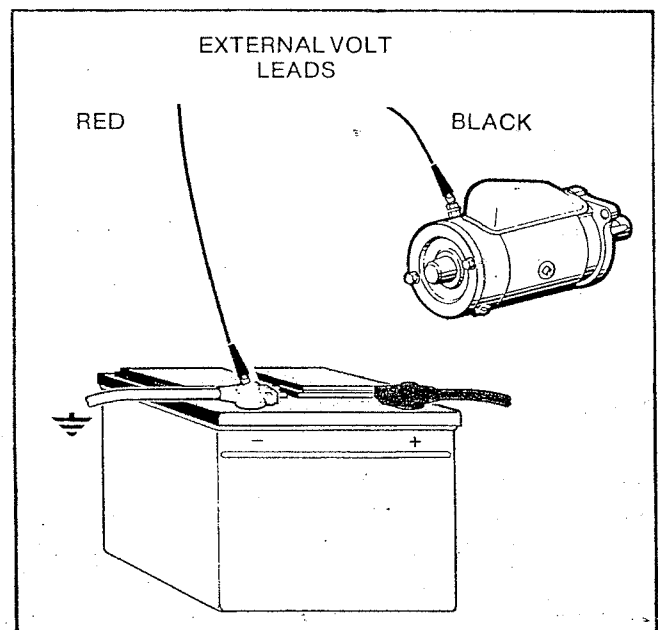

FIGURE 7. External volt lead connections for starting ground circuit resistance test.
- B. Observing polarity, connect volt leads to battery ground post and starter motor case (Figure 7). Scratch through paint with clip for good connection.